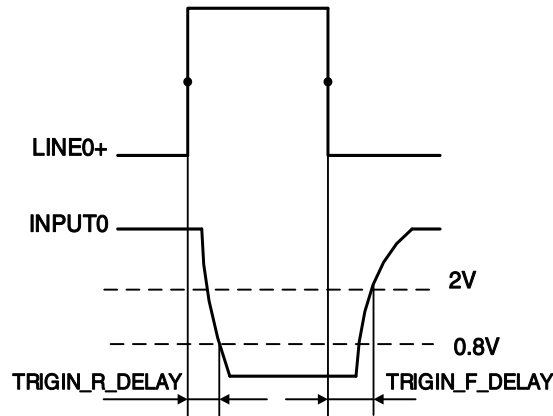

Figure 7-7 Parameter of opto-isolated input circuit
- Rising edge delay: <math><50\mu\text{s}</math> ($0^{\circ}\text{C}\sim 45^{\circ}\text{C}</math>), parameter description as shown in Figure 7-7$
- Falling edge delay: <math><50\mu\text{s}</math> ($0^{\circ}\text{C}\sim 45^{\circ}\text{C}</math>), parameter description as shown in Figure 7-7$